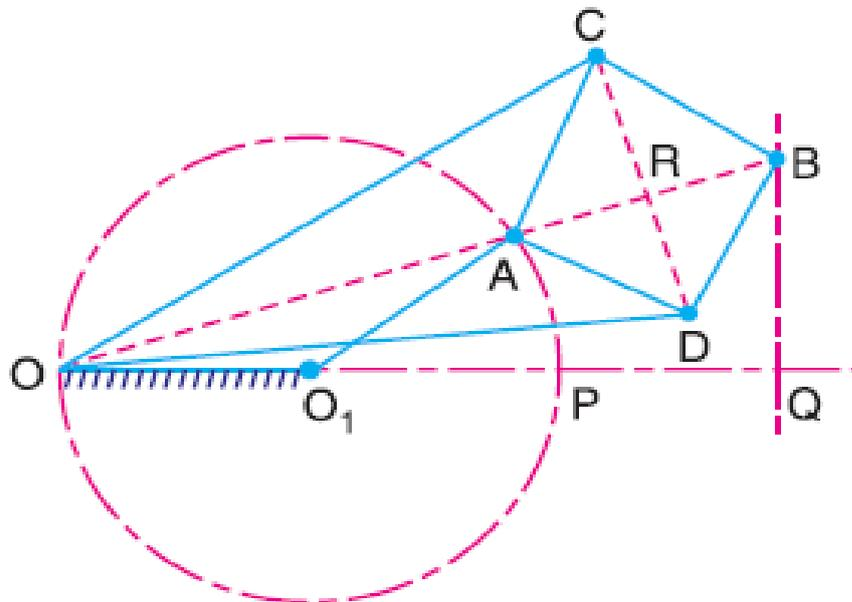

Fig. 2.2 Peaucellier Mechanism
- It consists of a fixed link  $OO_1$  and the other straight links  $O_1A$ ,  $OC$ ,  $OD$ ,  $AD$ ,  $DB$ ,  $BC$  and  $CA$  are connected by turning pairs at their intersections, as shown in Fig. 2.2
- The pin at A is constrained to move along the circumference of a circle with the fixed diameter  $OP$ , by means of the link  $O_1A$ . In Fig. 2.2